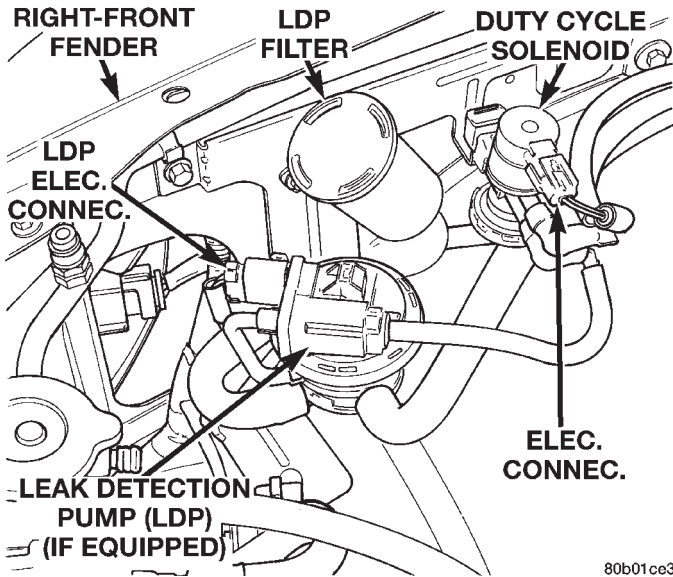

Fig. 20 Duty Cycle EVAP Canister Purge Solenoid Location
The duty cycle solenoid is attached to a bracket mounted to the right inner fender (Fig. 20).
- (1) Disconnect electrical wiring connector at solenoid (Fig. 20).
- (2) Disconnect vacuum harness at solenoid.
- (3) Remove solenoid from support bracket.
The LDP and LDP filter are attached to a bracket mounted to the right-inner fender (Fig. 20). The LDP and LDP filter are replaced (serviced) as one unit.
- (1) Carefully remove hose at LDP filter.
(2) Remove LDP filter mounting bolt and remove from vehicle.
(3) Carefully remove vapor/vacuum lines at LDP.
- (4) Disconnect electrical connector at LDP (Fig. 20).
(5) Remove LDP mounting screws and remove LDP from vehicle.